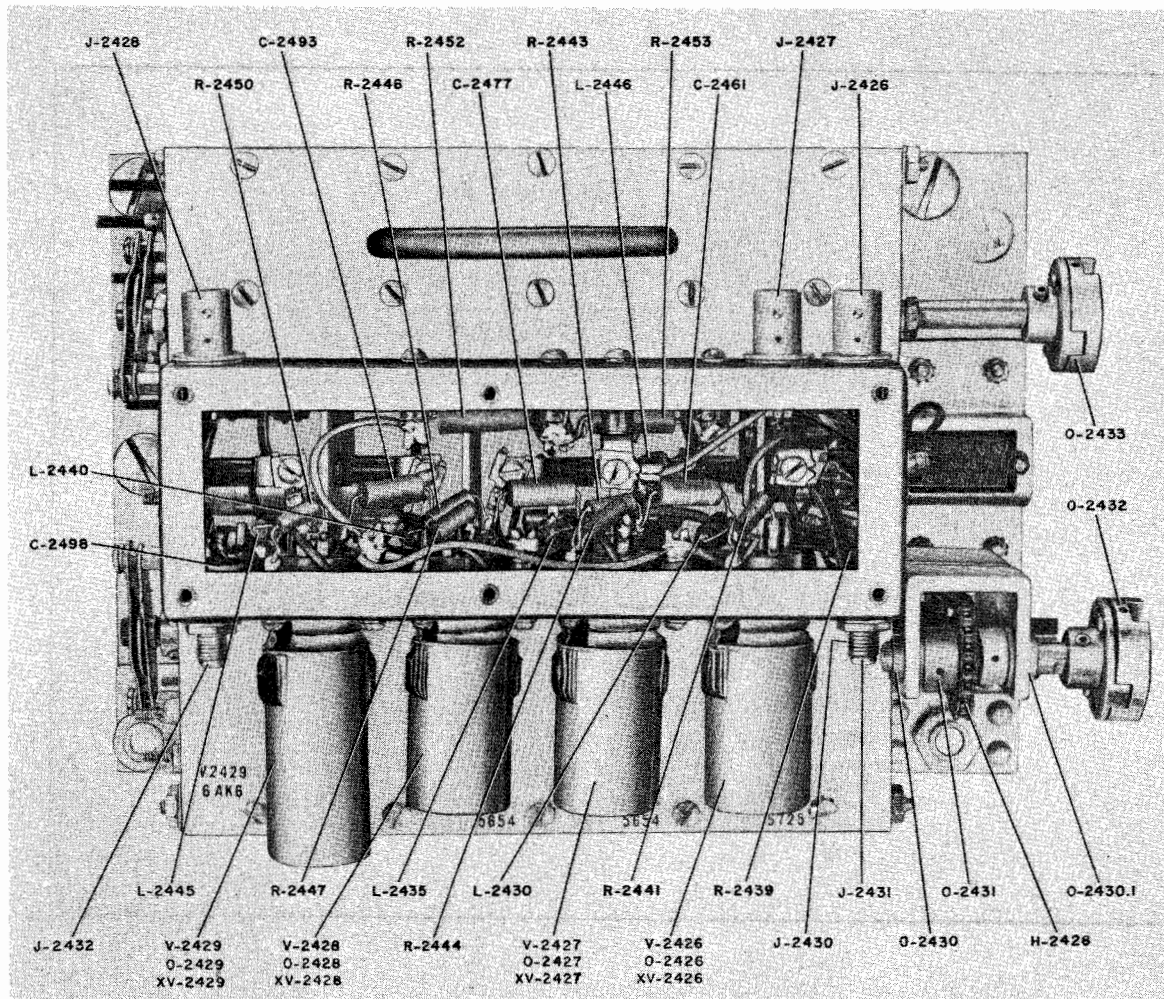

Figure 7-37. RFO, Unit 9 (Z-2426), Cover Removed, Left View
t. **ELECTRONIC FREQUENCY CONVERTER, UNIT 9 (Z-2426), TROUBLE SHOOTING.**—The electronic frequency converter, unit 9 (figures 7-37 and 7-38), has two inputs and one output. Table 7-19 lists the final output frequencies of unit 9 and respective knob positions. The nominal r-f voltage may be measured at the test points on unit 9, by means of Multimeter ME-25A/U, using the r-f probe (table 7-18).